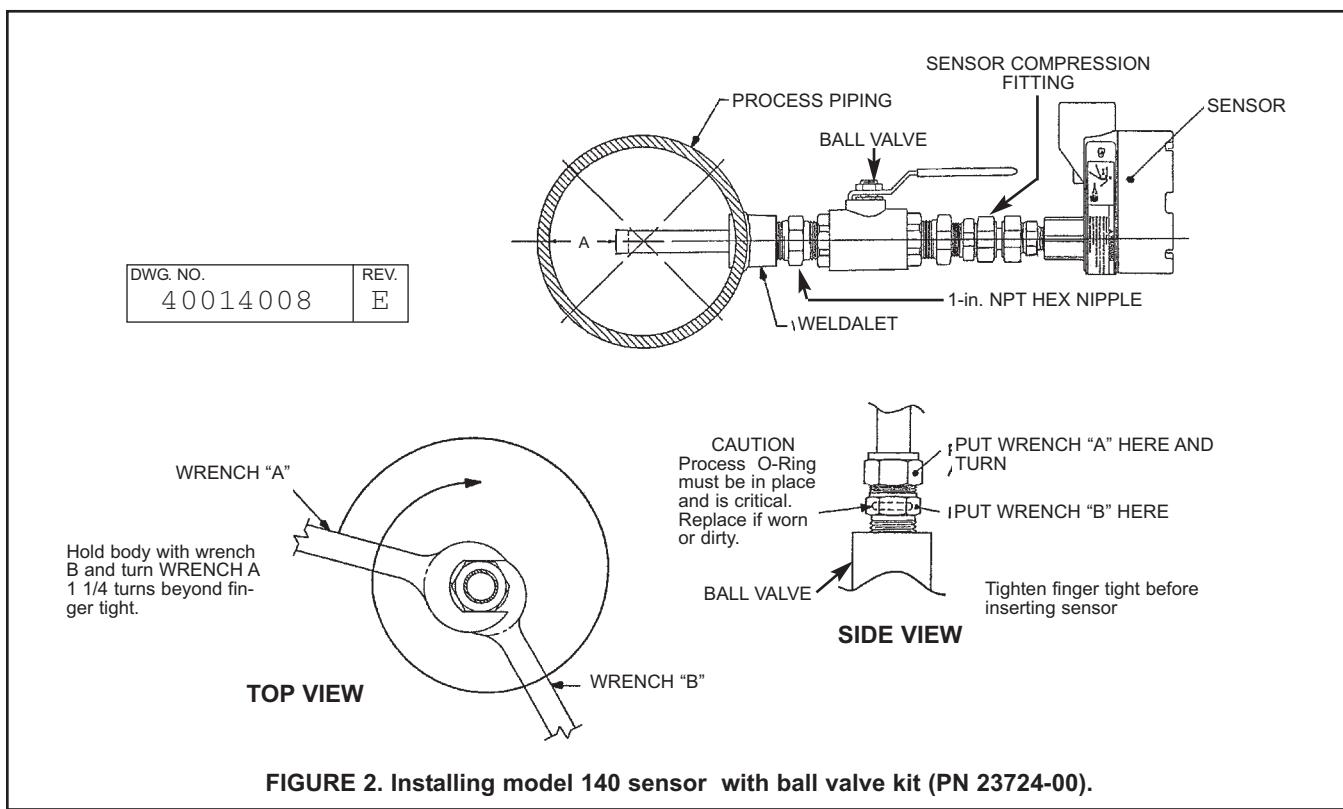

FIGURE 2. Installing model 140 sensor with ball valve kit (PN 23724-00).
3. Screw the 1-inch hex nipple into the weldalet or pipe tee. See Figure 2. Use pipe tape on the threads.
7. Insert the sensor tube until the sensor tip is no closer than 1 inch (25 mm) from the far wall of the process pipe. See Figure 2.
8. Tighten the sensor compression fitting nut to hold the sensor tip in position. See Figure 2 for instructions.
5. Tighten the compression fitting using the procedure shown in Figure 2.
1. Push in on the sensor junction box and slowly loosen the sensor compression fitting nut by reversing the sensor tightening procedure illustrated in Figure 2.
If the sensor comes free of the valve, refer to Figures 2 and 13 and verify that the valve and associated fittings are as shown. Do not proceed until the sensor is correctly restrained.
If the process seal is leaking owing to a pitted or uneven sensor tube, a replacement sensor is required. If the sensor tube surface is smooth and clean yet the process seal is leaking, the process O-ring is damaged and requires replacement according to the following procedure (see Figure 2). Replacement parts can be obtained from the Process Fitting Rebuild Kit (PN 23731-00).